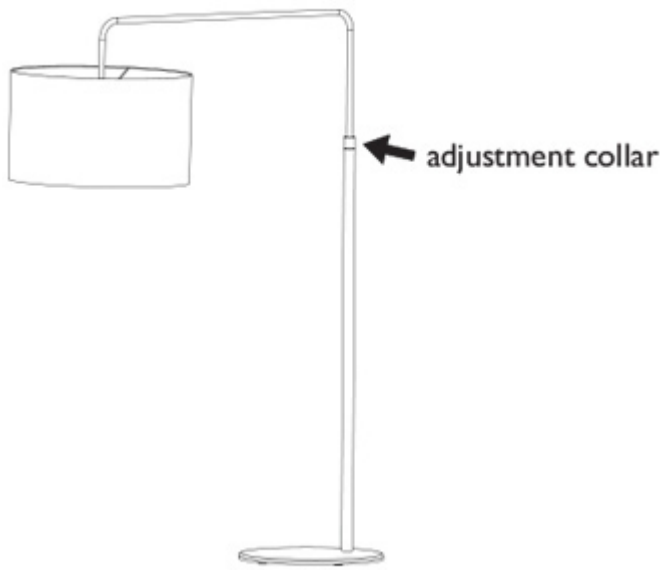
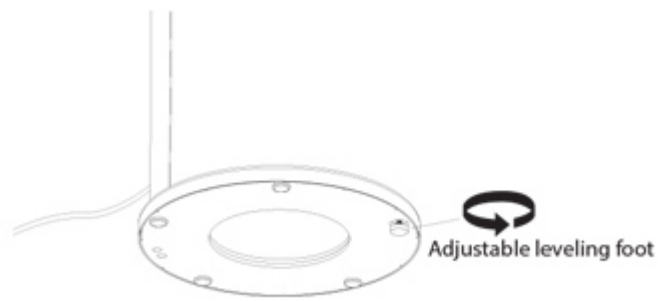

Figure 3
Figure 4
3. Adjust the height of the lamp stem to your desired height by spinning and loosening the collar between the upper and lower portions of the stem assembly. (Figure 3) An adjustable leveling foot is located under the base plate to accommodate for uneven floors. (Figure 4)